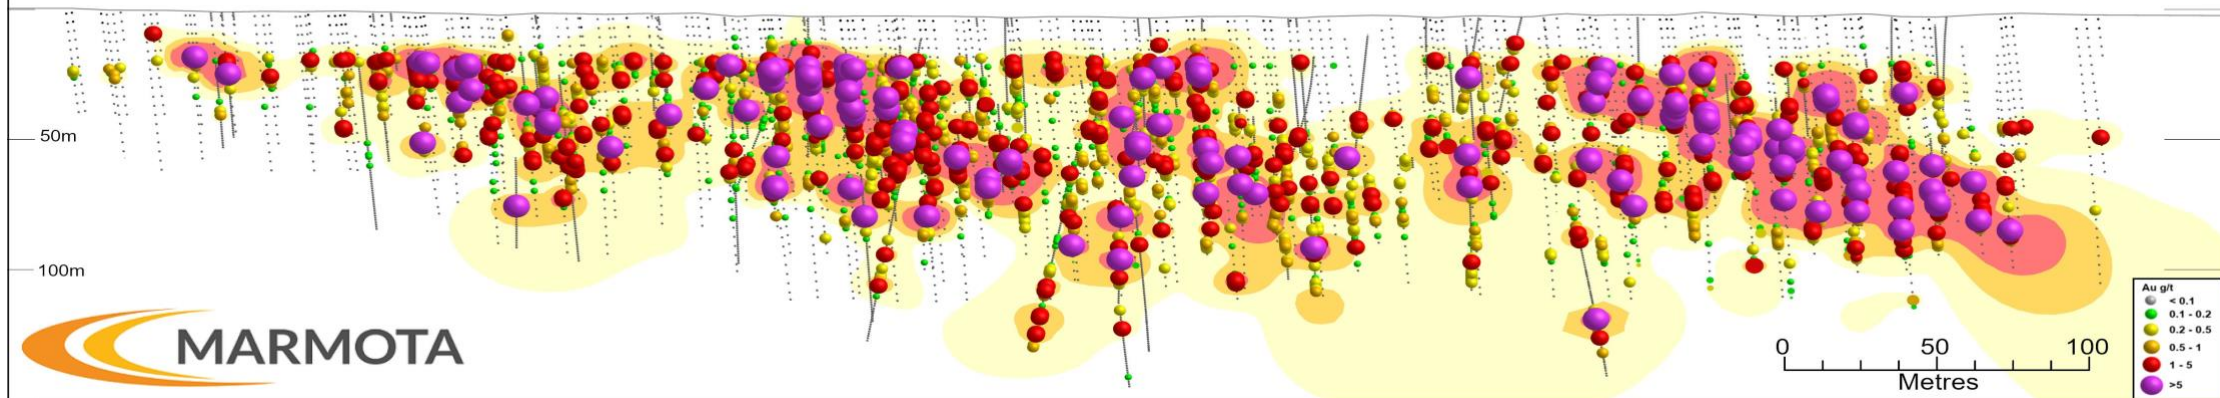

Figure 1: First long section view of Greenwood zone (from SW to NE)
Figure 1 provides the first **long-section view** of the Greenwood deposit.
- The program has delineated a nearly-continuous high-grade mineralised system [see purple dots in **Fig. 1** and **2**].
- The deposit features multiple bonanza gold grades, close to surface, with excellent continuity along strike (see the high-grade purple dots in **Fig. 1** and **2**), with exceptional thick high-grade intersections including **33m @ 10 g/t gold** from 22m downhole [ASX:MEU 11 Dec 2025], **22m @ 5.1 g/t gold** from 49m, **12m @ 5.4 g/t gold** from 19m, *etc.*
Mineralisation at Greenwood features bonanza grade intersections, close to surface, including high grades at both sides of the deposit (cross-sections 58b and 71b). The results (see also Figure 1) show the continuity of the high grades across the deposit. The shape of the Greenwood ore body (see cross-sections above) has a favourable resemblance to the textbook shape/geometry of an open-pit operation.